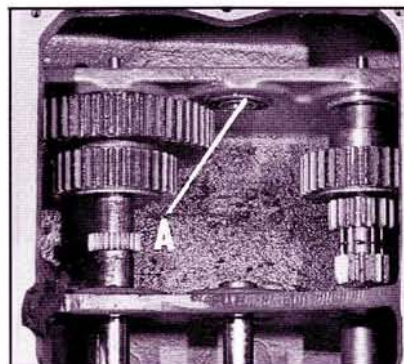

Fig. 19
1. Fig. 19, illustrates the drill press head with the center gear train removed. Before assembling the gear train, it is first necessary to remove the top bearing (A) Fig. 19, by pushing it straight up and out.